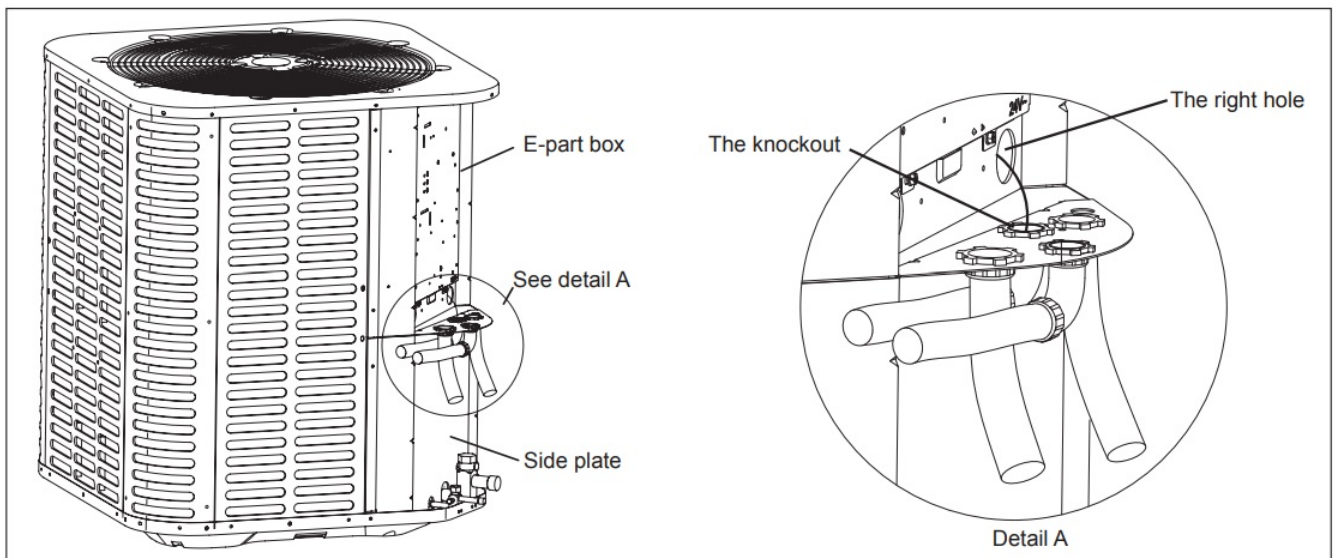

Figure 1
STEP 2- Route sensor wire through the knockout on side plate then the right hole on E-part box and over to outside row of coil (left side), be careful not to harm tubing (Figure 1).